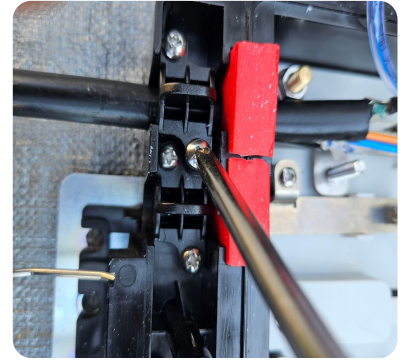

Fig. 5c
- Evenly tighten the retention screws on both sides of the retention bracket as shown in Fig. 5c.